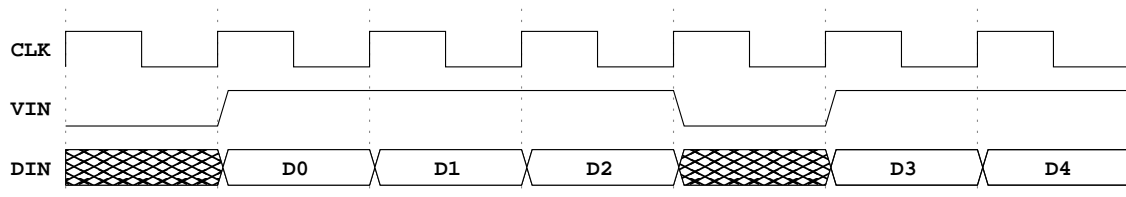

Figure 2
**Note:** the testbench must show that the circuit is working correctly even when *VIN* goes to zero, as shown in Fig. 2.